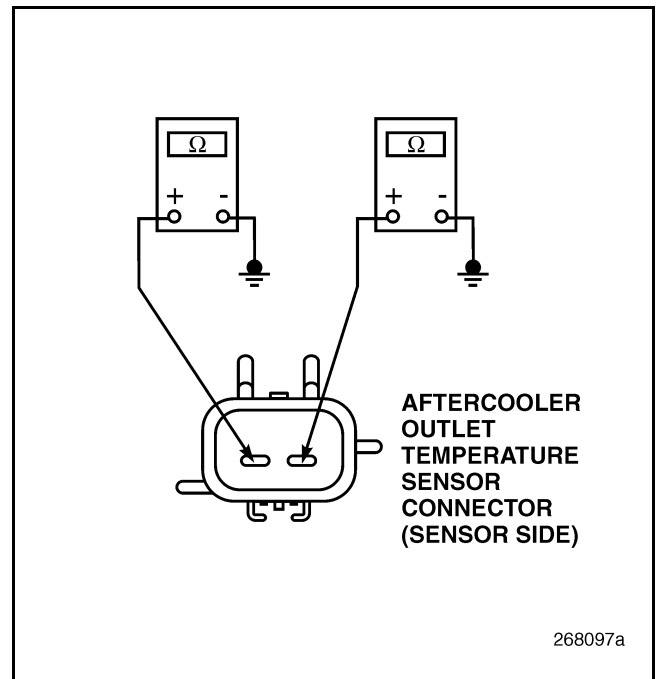

Figure 797
3. Check for continuity from either pin of the AOT Sensor to a good ground (see Figure 797).